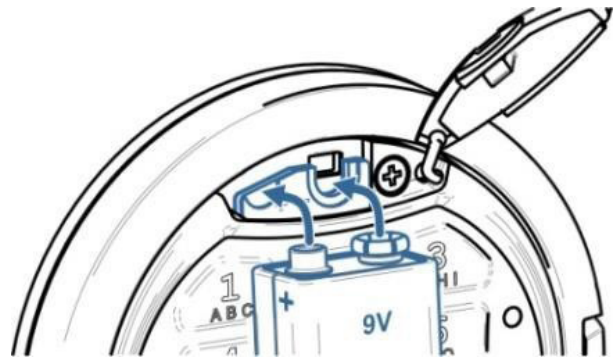

Fig. 7.3
- Press the new battery to emergency power pins and fix it in this position (see Fig.7.3).